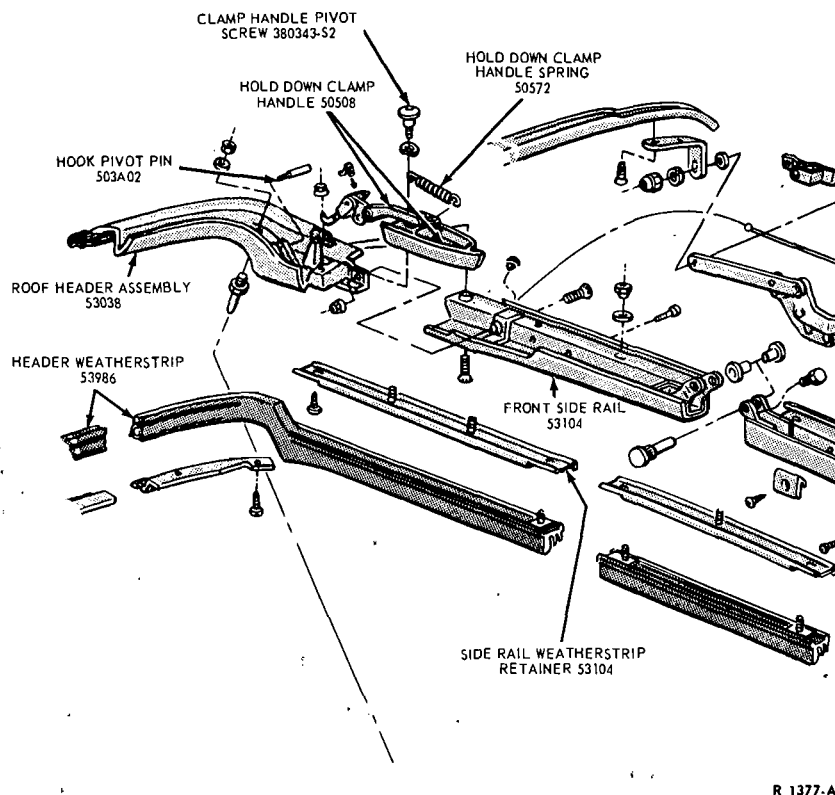

FIG. 7—Folding Top Hold Down Clamp—Fairlane, Mercury Intermediate
2. Remove the three tee nuts and one screw retaining the front side rail weatherstrip and retainer to the side rail (Fig. 7).